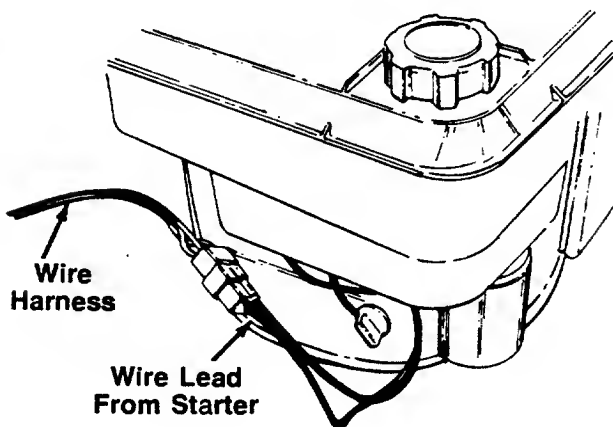

FIGURE 8.
2. Plug the end of the wire lead coming from the starter on the engine into the plug on the end of the wire harness. See figure 8.